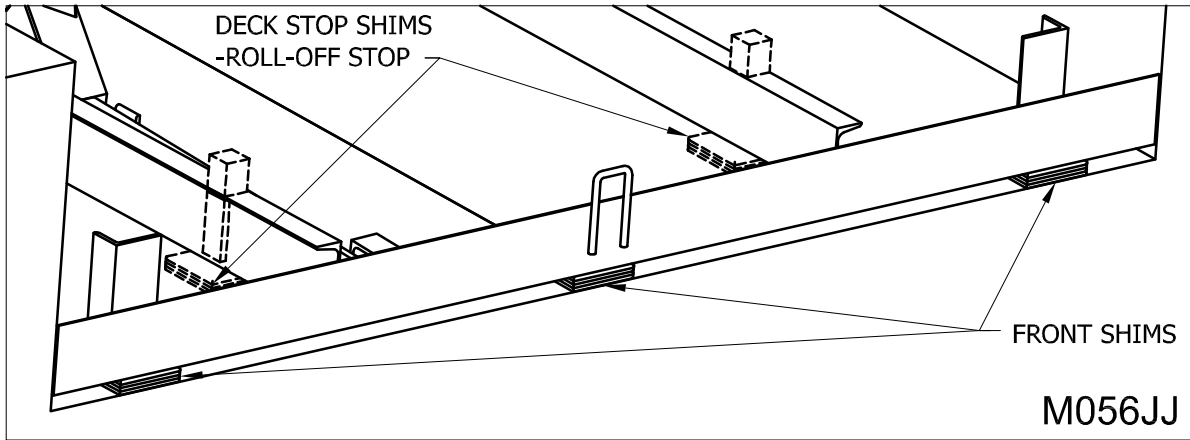

Figure 31: Front Angle & Deck Stop Shims
1. \_\_\_ Front angle shims. (See "Figure 31: Front Angle & Deck Stop Shims" on page 28)
2. \_\_\_ Deck stop shims. (See "Figure 31: Front Angle & Deck Stop Shims" on page 28)